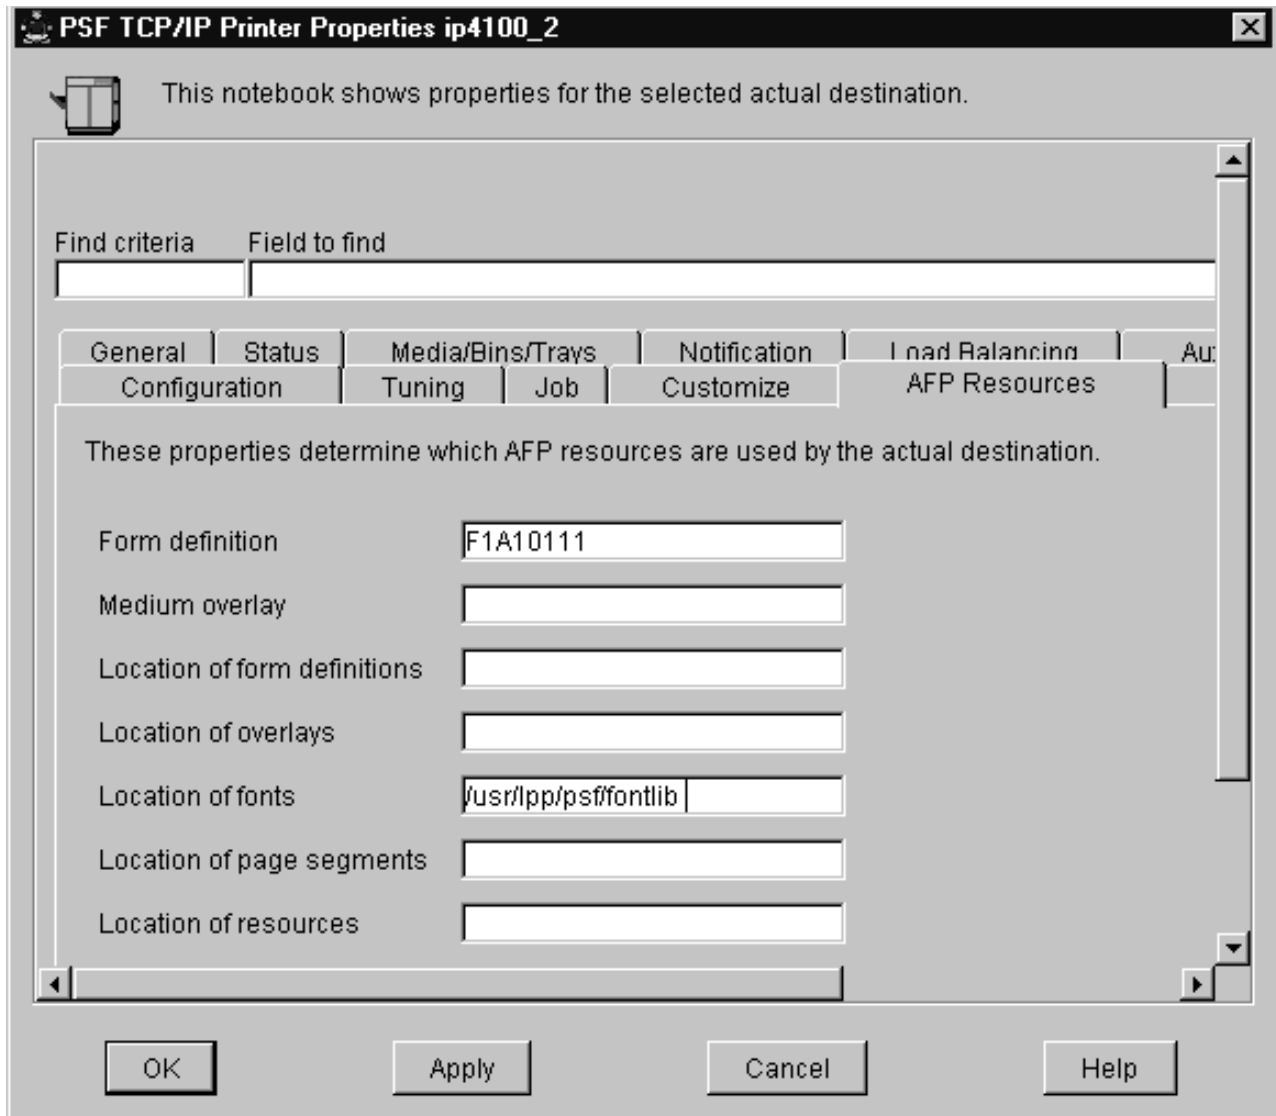

Figure 62. Printer Properties window for specifying the Fonts Path on AIX
- `/usr/lpp/psf/fontlib` in the **Location of fonts** field, as shown in Figure 62 on page 145 on InfoPrint Manager for AIX